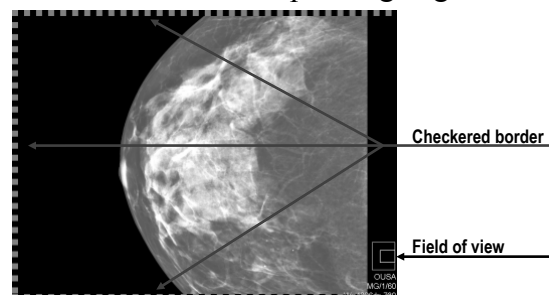

Figure 409 – Only part of the image is visible within the view
- The appearance of a checkered border, which can be activated/deactivated by checking/unchecking the **Indicate that the image is not displayed entire in the view (checkered border)** check box on the **Mammography** tab of the **TomoCon options** dialog (see 4.8 Mammography). If the check box is checked, the part of the image that is not visible within the view is indicated by a checkered border on the corresponding edge of the view (see Figure 409).